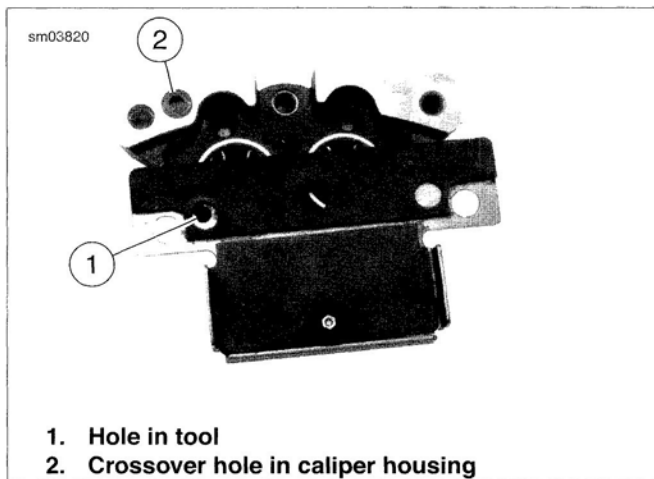
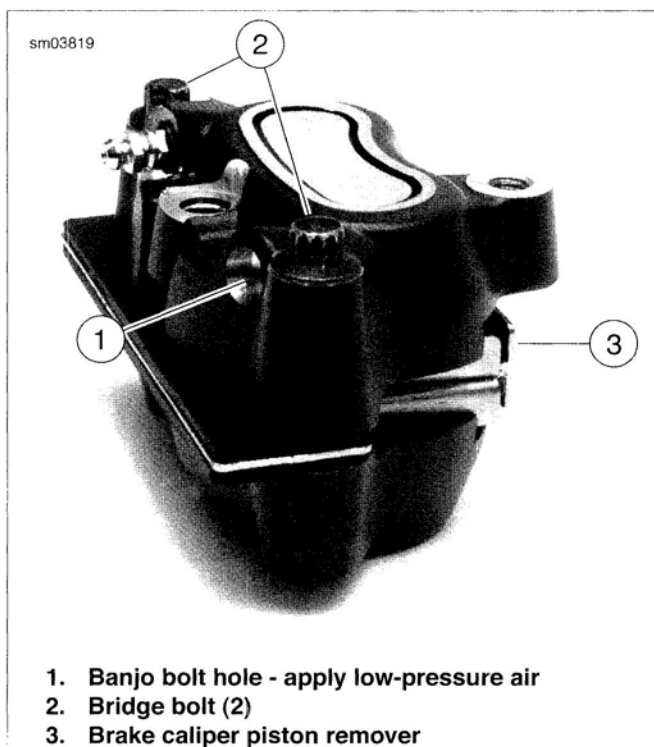

Figure 2-35. Installing Tool
Figure 2-36. Removing Pistons
3. See Figure 2-35 and Figure 2-36. Remove pistons.
- a. Place FRONT BRAKE CALIPER PISTON REMOVER (Part No. HD-48649) (3) between caliper housings.